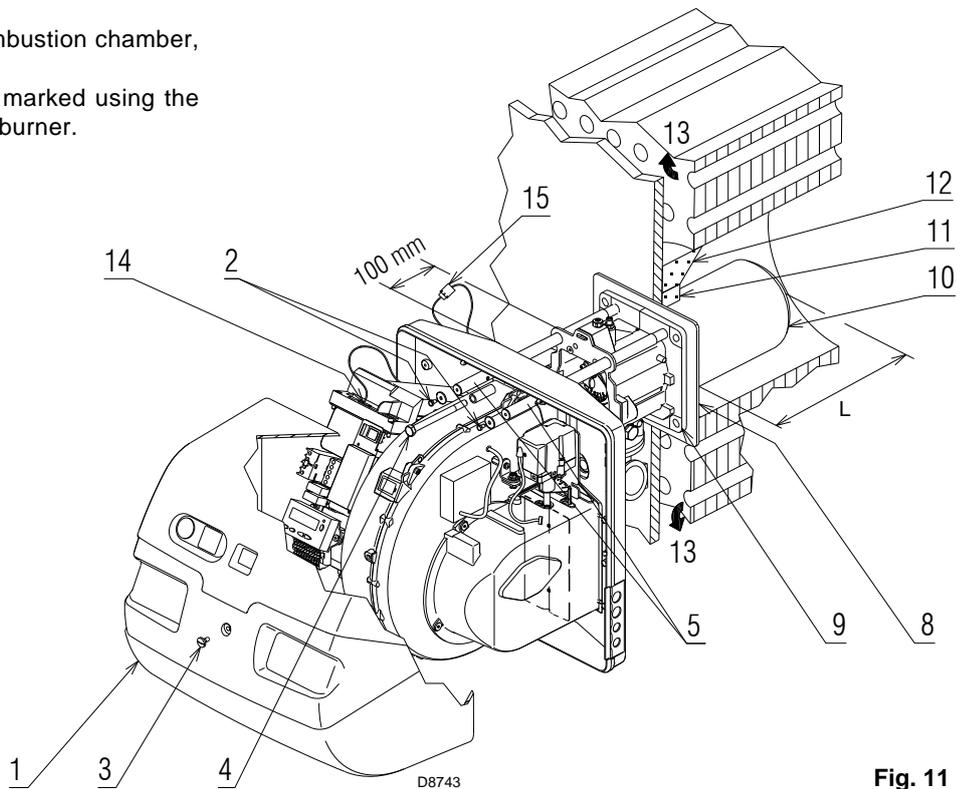

Fig. 11
For boilers with front flue passes 13), a protection in refractory material 11) must be inserted between the boiler refractory 12) and the blast tube 10). This protection must not compromise the extraction of the blast tube. See Fig. 11.
Separate the combustion head from the rest of the burner, Fig. 11.
Fix the flange 9)(Fig.11) to the boiler plate, interposing the supplied insulating gasket 8)(Fig.11).
- reassemble the burner on the guides 3) at about 100 mm from the pipe coupling 4) - burner in the position shown in Fig. 11;
- connect the plug of the servomotor 14)(Fig. 11) and tighten the cable grommet 15)(Fig. 11);